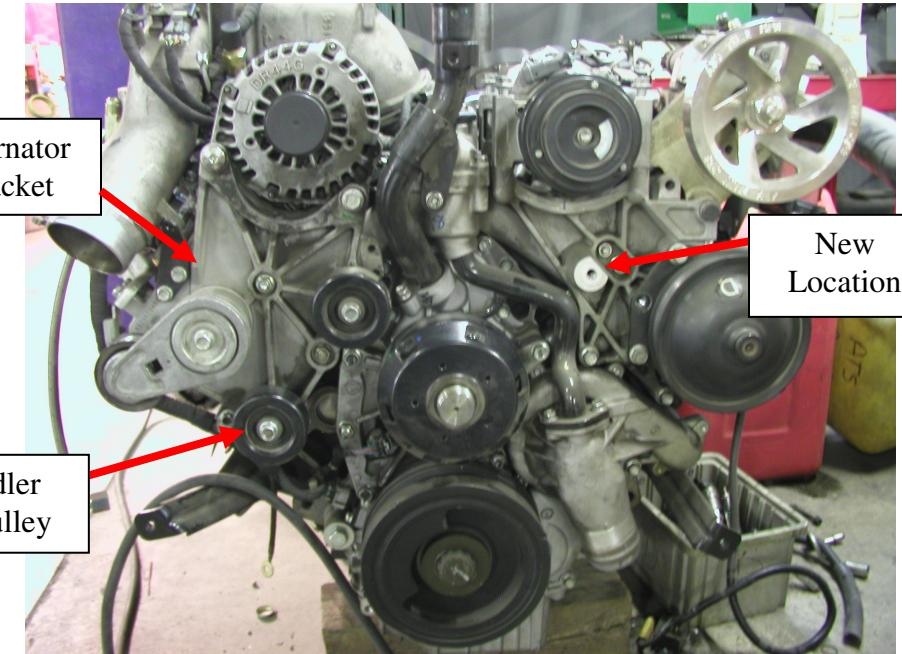

**Figure 1: LB7 Twin CP3 Kit**
Thank you for purchasing the ATS Twin CP3 Kit. The picture below shows all the components included in the kit. Two rail fittings (8a. and 8b.) are shown in the picture. The 2001-2002 LB7 fuel rail requires fitting 8a. and the 2003-2004 LB7 fuel rail requires fitting 8b. Please check before beginning the installation to make sure all components are in the supplied LB7 Twin CP3 kit. Two  $\frac{1}{2}$ " barbed to JIC-6 fittings (#14 in **Figure 1**) are provided in the kit for installation variations. The backside large idler pulley is not pictured.
15. Install the -6 supply fitting and seal (#9 and 10 in **Figure 1**) into the factory CP3 pump.
16. Route supplied  $\frac{1}{2}$ " fuel hose from fuel filter housing to the supplied -6 tee using the provided  $\frac{1}{2}$ " barbed to -6 fitting provided in the kit (#14 in **Figure 1**). Attach hose to fuel filter with existing fuel line clamp.
17. Remove fuel return banjo bolt from the top of the pressure relief valve (**Figure 15**) and install the return combination JIC-6 banjo bolt with the new seal provided in the kit (#11 and #12 in **Figure 1**).
20. Remove alternator bracket bolt shown in **figure 18** and install the 10mm x 1.5 x 80mm button head bolt (#19 in **Figure 1**) into alternator bracket. Do not over tighten.